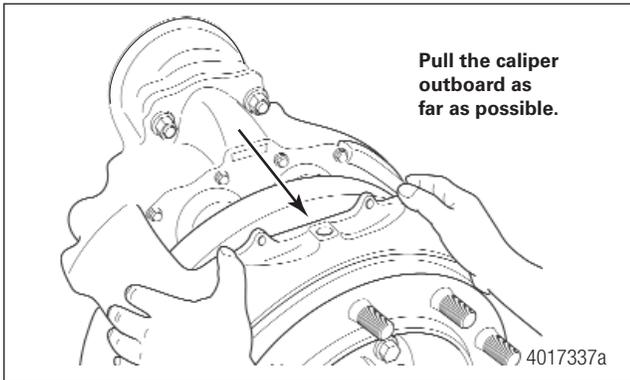

Fig. 6.16
STEP 2 - Position the brake at the new pad condition. Pull the caliper outboard in the direction of the arrow as far as possible and let it settle into resting position. Figure 6.16.